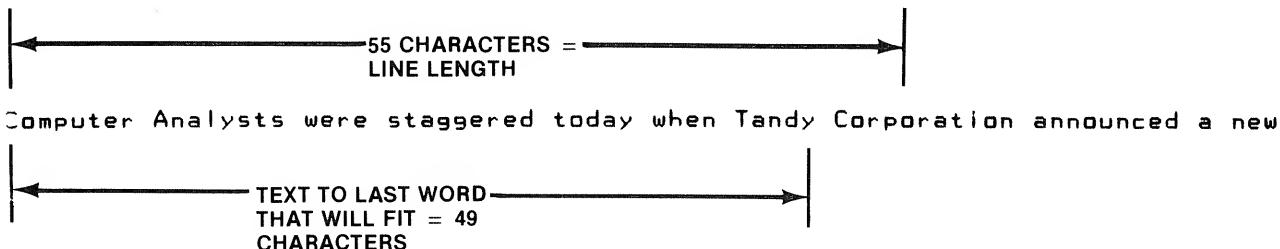

Figure 8-4. Producing Unjustified Text
It's fairly easy to produce unjustified text. We'll use the text above to illustrate. See Figure 8-4. The process goes like this:
1. Subtract the number of characters through the last word (49 through "Tandy") from the total number of character positions in the line (55 with ZL = 10, ZR = 65). In the previous example (Figure 8-4), it's six character positions.